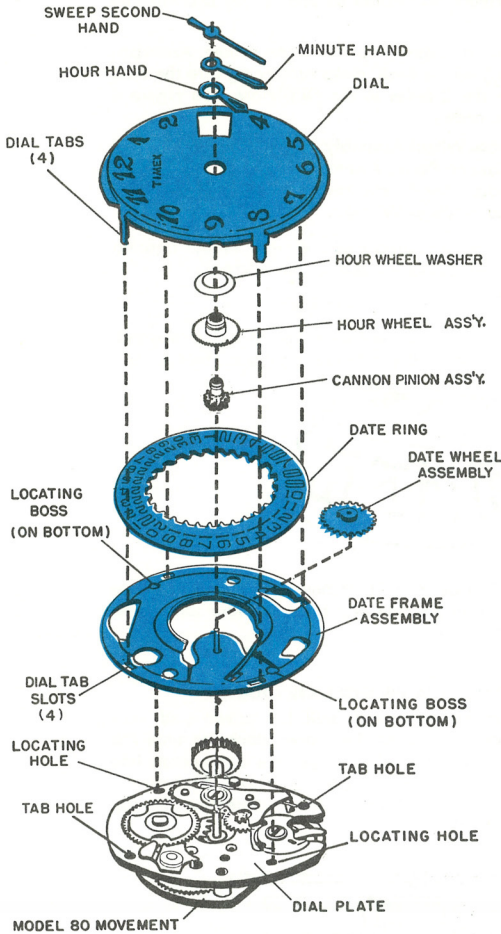
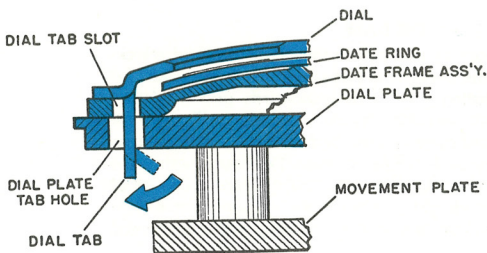

FIGURE 1
FIGURE 2
- B. The Dial Assembly is clamped to the movement by means of four tabs which are inserted through slots in the Date Frame Assembly and then bent under the plate to secure the assembly (see Figure 2 at left). Bend the tabs slightly to free the dial from the movement and then lift off in order (see Figure 1 at left).
Assemble the Detent Spring (if loose) into the Date Frame Assembly. Place the date frame assembly on the M-80 movement being sure the date frame bosses are located in the 2 holes in the Dial Plate (see Figure 1 on Page 81.3). Assemble in order: